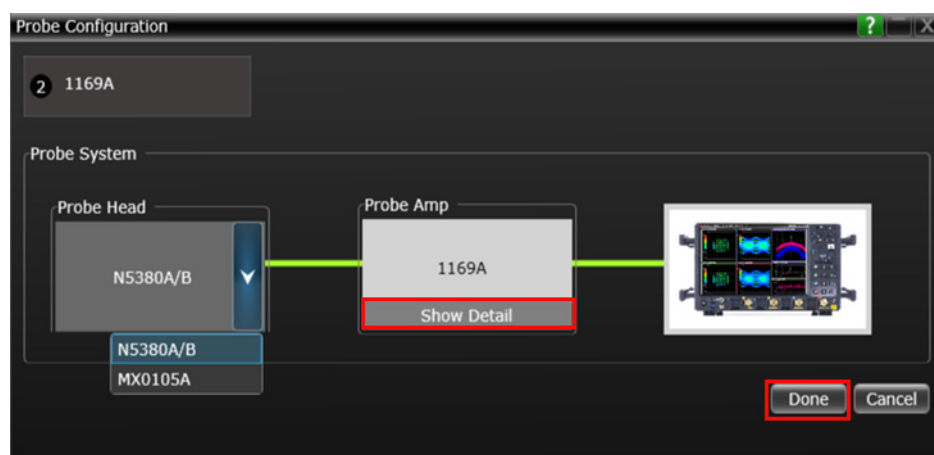

Figure 1-21 Probe Configuration Window
- Select the indicated probe in the Probe Head. Click **Done** after selecting the connected head model for the scope as shown in Figure 1-21. InfiniiMax probe provides S-parameter correction for probe amp and probe head. Selecting correct probe model numbers will ensure flat frequency response and more accurate measurement result with the probe.